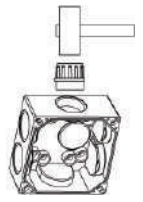

Figure 4
4. Fit the necessary glands to the removed knock outs (refer to figures 4& 5)